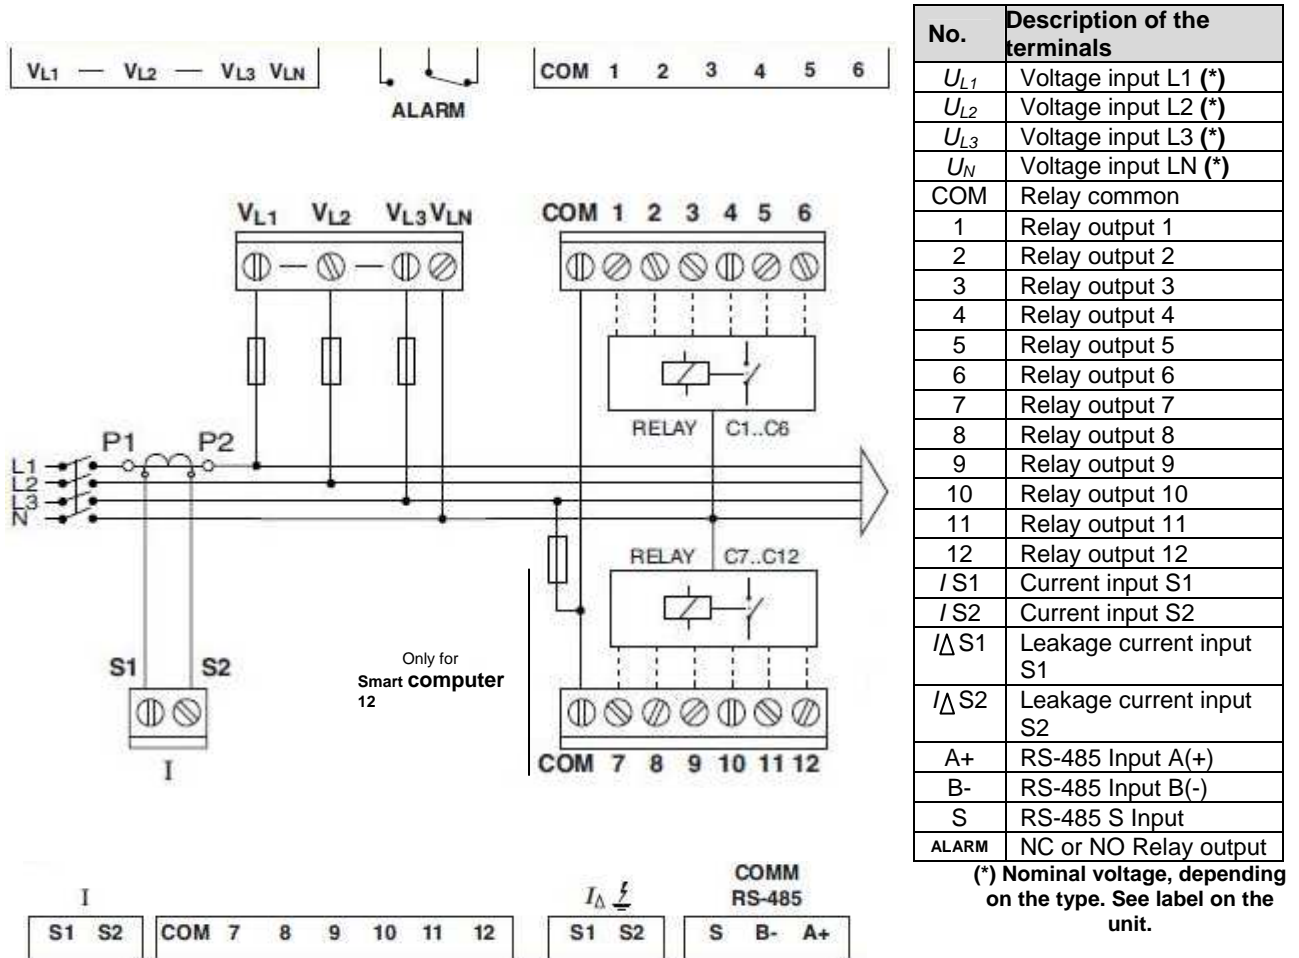

Fig. 2.2.- Computer Smart 6/12 Connection diagram
The current transformer (CT) should preferably be connected to phase L1, while the voltage connections should be connected to phases L1, L2 and L3 (see diagram in Fig. 2.2). Connections P1, P2, S1 and S2 shown on the said diagrams should be respected. In case the connection layout mentioned above is not respected, the phase must be adjusted, following the procedure described in section 5.5.